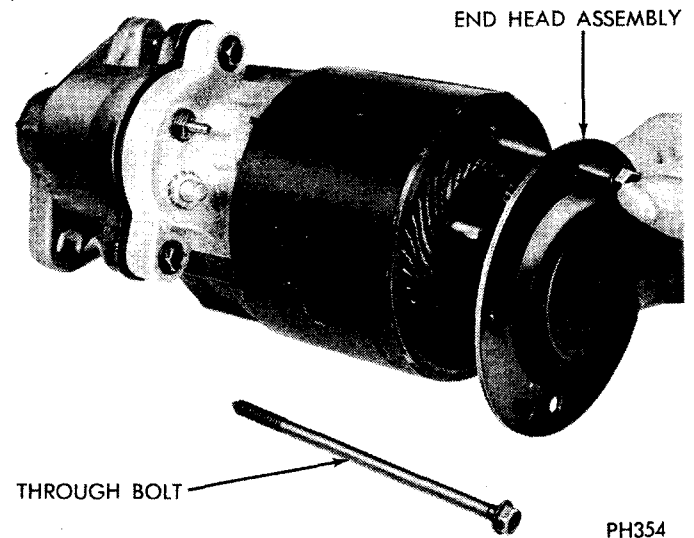

Fig. 2—Removing Through Bolts and End Head Plate
(1) Remove through bolts and end head assembly, (Fig. 2).